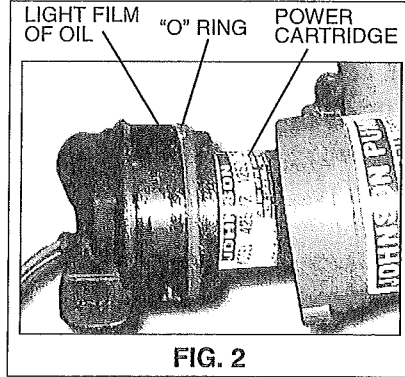

FIG. 2
1. Make sure the “O” ring is properly located and coat the “O” ring with a light film of vegetable oil or mineral oil (Fig. 2).
1. Remove the port jump seat (FIG. 1). Rotate it 90° clockwise and slide the lounge support insert into the *starboard* side opening of the motor box pad (FIG 2).